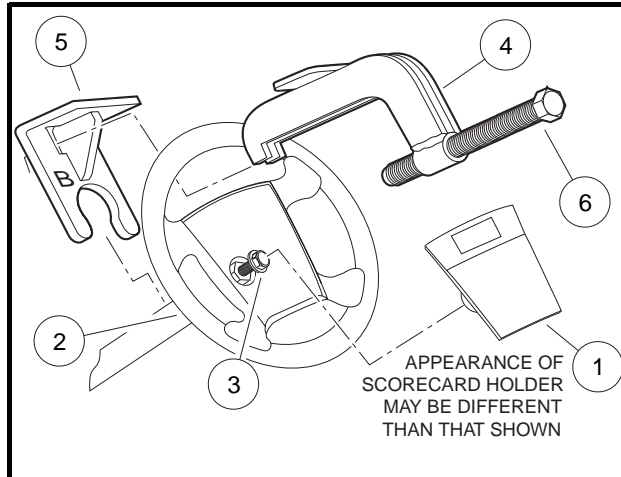

Figure 7-1 Steering Wheel Puller
- 6.1. Place the puller anvil (4) through the top opening of the steering wheel (**Figure 7-1, Page 7-2**).
- 6.2. Insert the anvil feet through the two slots in the base plate (marked “B”) (5) as shown (**Figure 7-1, Page 7-2**).